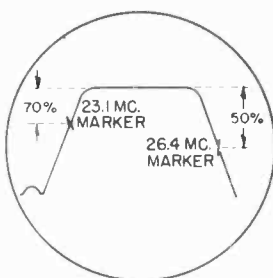

FIG. 12
12. Tune sweep generator to 24 Mc. with a 10 Mc. sweep and view response curve of the video IF transformers on oscilloscope. See Figure 12 for desired over-all response curve. The video carrier (26.4 Mc.) should be at 50% response as shown in Figure 12. Re-adjust T56 slightly to obtain this result, if necessary. The band width may be checked by varying the frequency of the marker signal from the high side of the curve until it indicates 70% response on the opposite side of the curve. The difference between this frequency and 26.4 should be approximately 3.3 Mc. Re-adjust T52 to obtain this band width if necessary. Slight re-adjustment of slugs on tuner output transformer L10 and video IF transformer T51 may be necessary to obtain the symmetrical characteristics as shown in Figure 12.